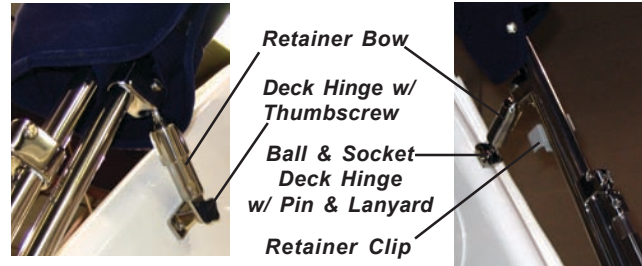

Figure O5: Camper Stored Position
2. Remove the pin with lanyard or thumbscrew from each of the deck mounts located on each side of the radar arch. This will release the camper retainer bows and camper from its stored position. See Figure O5. Be sure to be supporting the camper top to prevent it from falling and possible damage. Reinsert pin with lanyard or thumbscrew into deck hinge.